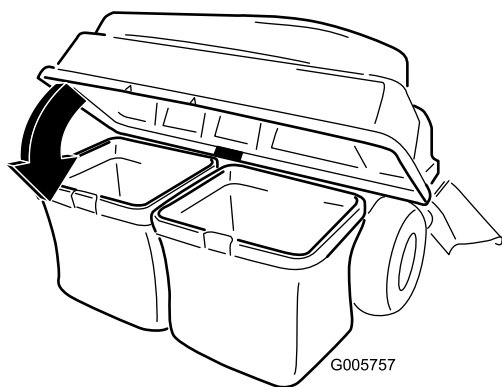

Figure 13
6. Lower the bagger top onto the bags. (Figure 13).